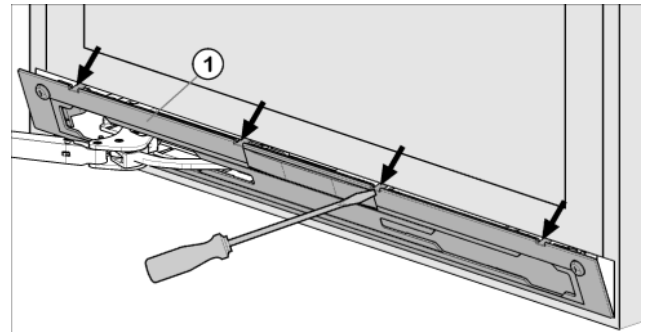

Fig. 4
- Disengage and remove the faceplate Fig. 4 (1) using a flat-blade screwdriver.